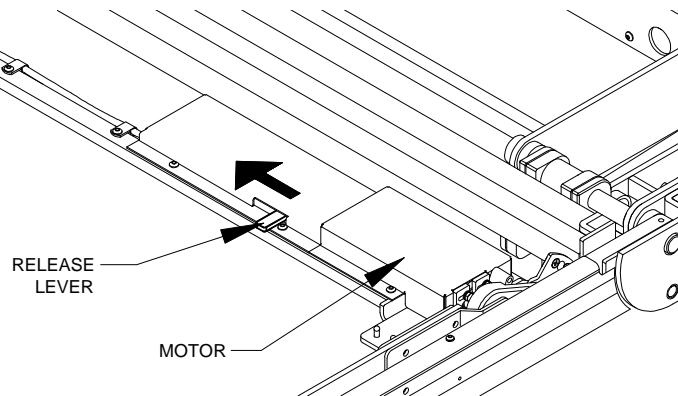

FIGURE 2-9: BRIDGEPLATE RELEASE MECHANISM
Refer to **Figure 2-9**. The bridgeplate is normally raised and lowered with an electric motor. A release lever is provided to disengage the motor when manual operation is necessary. Move the lever to the left and hold it (a spring pushes the lever to the right) and then raise or lower the bridgeplate by hand. Move the bridgeplate to the vertical position and it will lock in place when the lever is released.
- 2) Refer to **Figures 2-9** and **2-14**. Move the bridgeplate release lever to the left, hold it there, and then lower the bridgeplate down onto the platform.